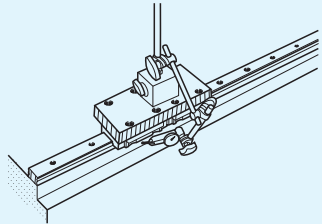

Fig. 39 Method to use temporary reference surface
① Method to use reference mounting surface
② Method to use temporary reference surface
- Prepare temporary reference surface around the mounting surface of the bed, temporarily fix the track rail, fix the measurement stand on the upper surface of the slide unit as indicated in Fig. 39, place an indicator onto the temporary reference surface, and fix them from one end of the track rail in order while maintaining straightness.